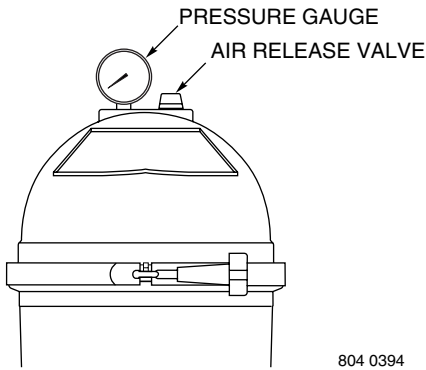

FIGURE 4
11. Attach pressure gauge and air release valve as shown in Figure 4. Apply Teflon tape, Plasto-Joint Stik or Silastic RTV#732 to threads of pressure gauge.